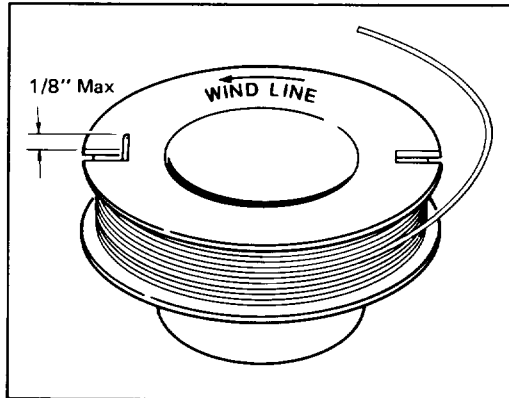

Figure 19
A. Hook one end of line into groove on spool, allowing no more than 1/8" to protrude. Wind line in direction of arrows on spool in level rows between spool flanges (Fig. 19).